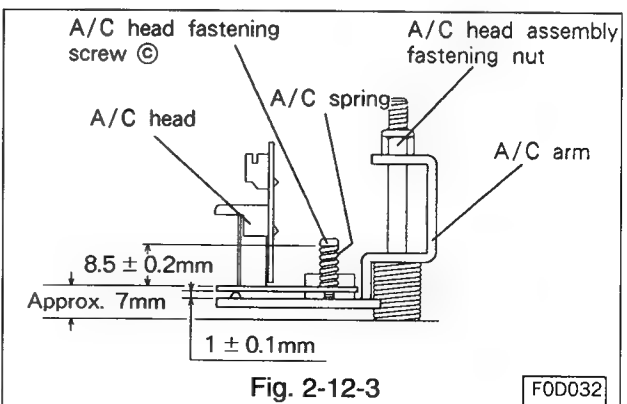

Fig. 2-12-3
Install the A/C head to the A/C arm so that the base surface of the A/C head shall be parallel to the A/C arm, and their spacing and the A/C head installation screw ㉑ height shall be as specified in Fig. 2-12-3.
- Tighten the A/C head assembly fastening nut so that the base surface of the A/C head shall be about 7mm above the main plate surface.(Refer to Fig. 2-12-3.)